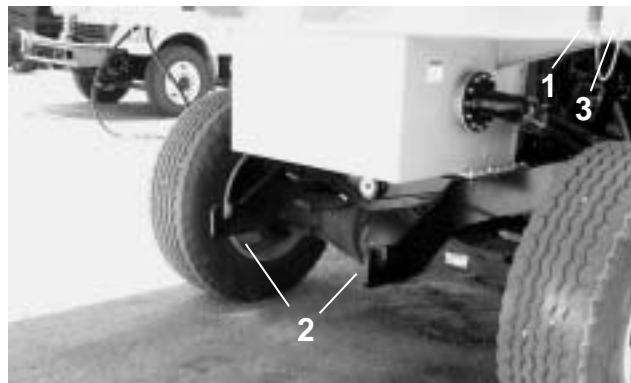

Figure 1. Front Of Chipspreader
1. By hooking a lifting sling into the rear lifting eye, the hopper can be tilted forward while being raised, allowing the hopper carrying shafts to engage the hopper carrying arms on the ChipSpreader. (Figure 1 & 2) Lower hopper slowly until lifting sling can be disconnected.